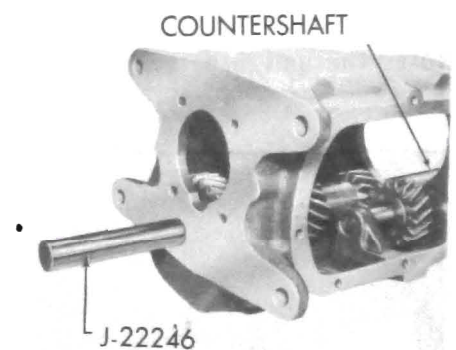

Figure 72-34 - Installing Countergear Shaft
2. Install countergear into case. Install countergear shaft from rear of case. Make certain woodruff key is in position. See Figure 72-34.